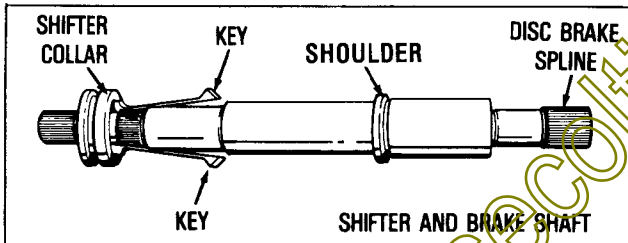

FIGURE 10
2. Grease both keyways and slide keys and collar on shifter and brake shaft (as shown in Figure 10). Thick side of shifter collar **MUST** face shoulder on shaft as shown in Figure 10.